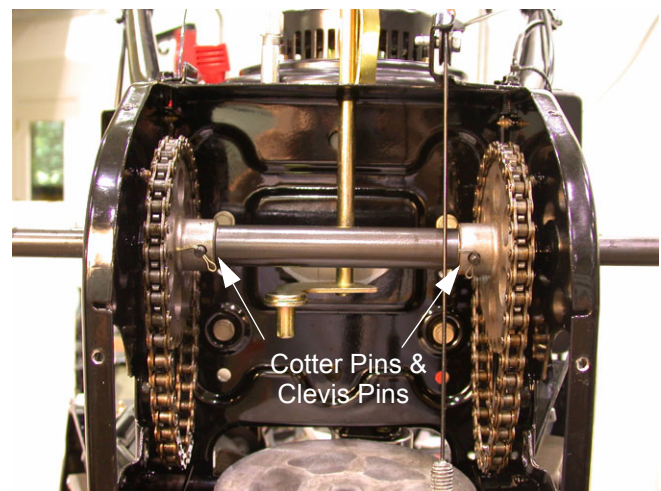

Figure 32
- 13.5. Remove both cotter pins from the clevis pins securing the sprockets to the wheel axle. See Figure 32.